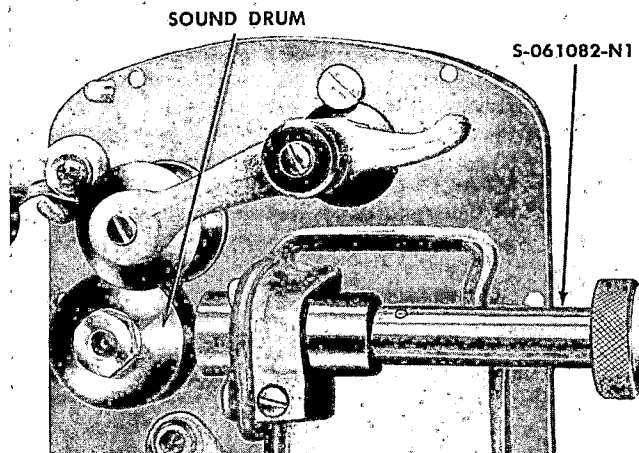

Figure 4. Using Adjustment Gage S-061082-N1
## 36. TAKE-UP REEL ARM ASSEMBLY. (See Parts Catalog figure 4.)
b. Insert sound drum adjustment gage as shown in figure 4, and move the stabilizer housing assembly in or out until inner face of sound drum just touches small projection on end of gage. Recheck to make certain that light pipe prism is perpendicular in
b. Insert stabilizer housing assembly (11) carefully into and through mounting plate (64). Insert scanning lens (24) just enough to hold. Rotate the stabilizer housing until its light pipe prism is perpendicular to the scanning lens center line.
c. Insert sound drum adjustment gage as shown in figure 4, and move the stabilizer housing in or out until inner face of sound drum just touches small projection on end of gage. Recheck to make certain that light pipe prism is perpendicular in relation to scanning lens, and tighten set screws (9 and 10) securely.
d. Install retracting lever (57) with stop nuts (55) and plain washers (56). Install photocell mounting plate (51) with screws (48) and lock washers (49), but do not tighten screws. Shift plate until center point of exposed light pipe prism is equidistant from the edges of the opening in the mounting plate. Maintain this alinement while tightening screws (48).
e. Note the small, round hole in one side of the photocell assembly (50). Attach the photocell assembly to the mounting plate with this hole facing the light pipe prism, tightening the two screws (48), with lock washers (49), securely. Connect photocell terminal lugs to the two inner terminal block screws. The two outer screws of the terminal block are used to connect the terminal lugs of the cable assembly (37). Install photocell cover (47) with screw (45) and washer (46).